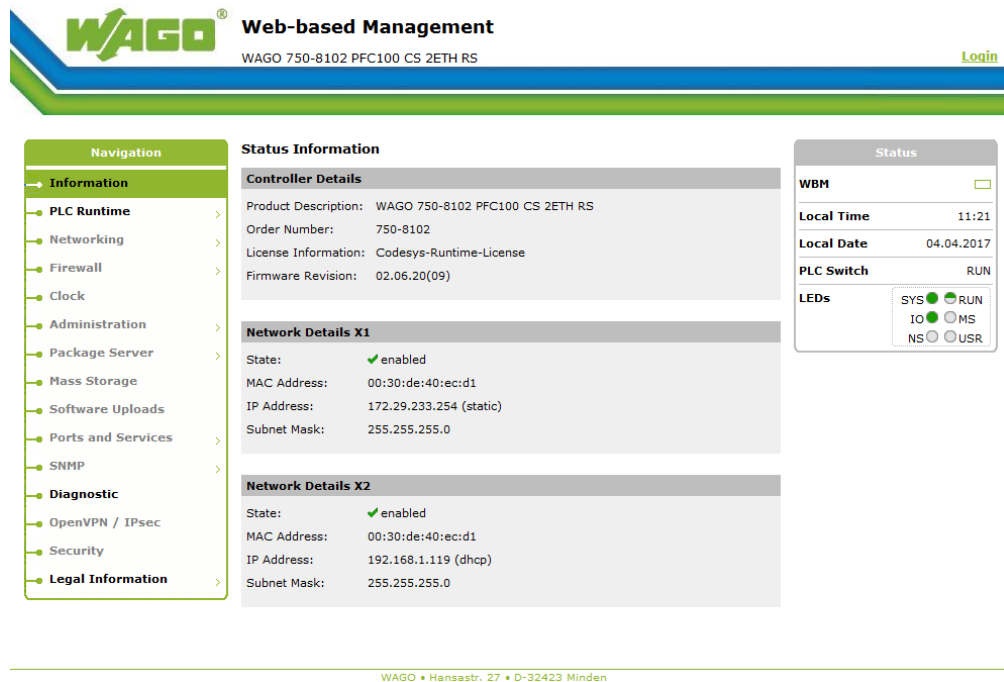

Figure 5-1: WBM Start Page before Installing the Linux Application (.ipk File)
1. Launching the WBM in a Web browser. The WBM page shown in Figure 5-1 should be displayed.